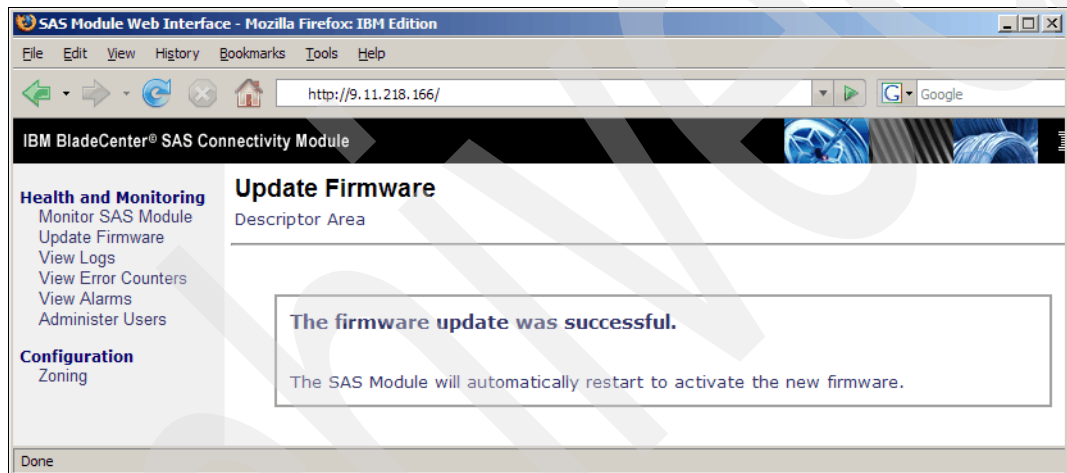

Figure 18-10 SAS Connectivity Module - Update successful
5. Click **OK** or **Cancel**. If the installation of the new firmware file is successful, an installation confirmation window opens, as shown in Figure 18-10. If there are errors during the installation, an error message window opens.